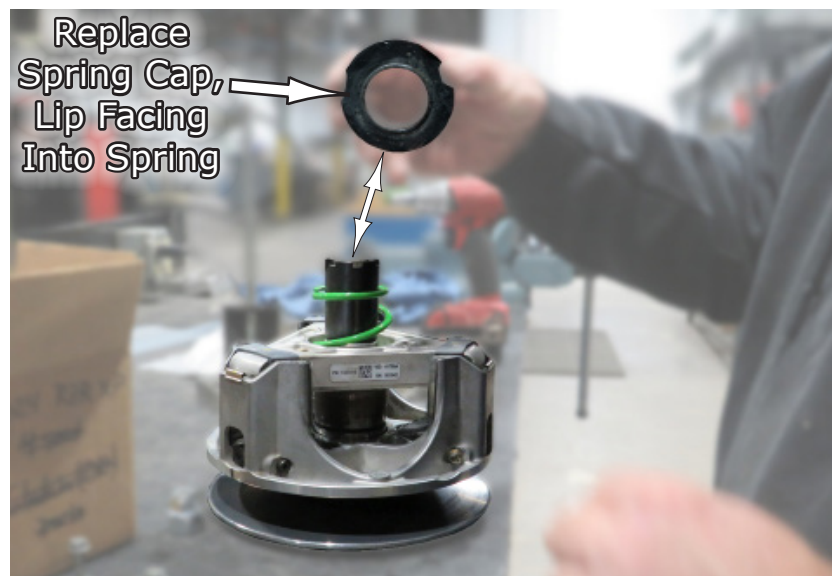

Fig.26
27. Now replace the Spring Retainer with the lip facing down into the spring to hold it in place. See **Fig.26.**